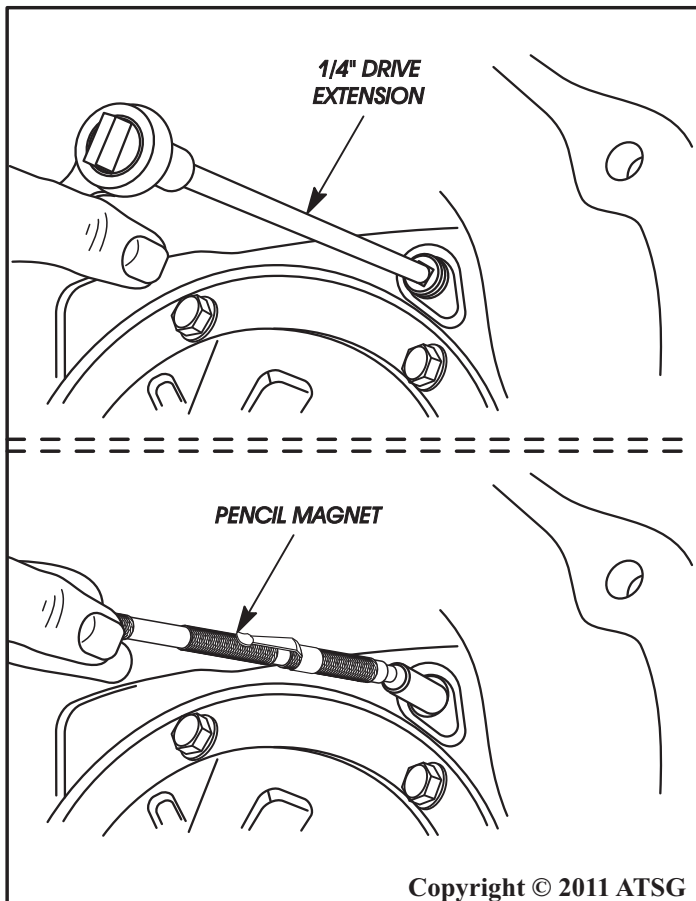

Figure 74
33. Remove the front band apply lever pivot pin plug from front of case using a 1/4" drive ratchet and extension, as shown in Figure 74.
34. Remove the pivot pin with a pencil magnet, as shown in Figure 74, and remove the front band apply lever.